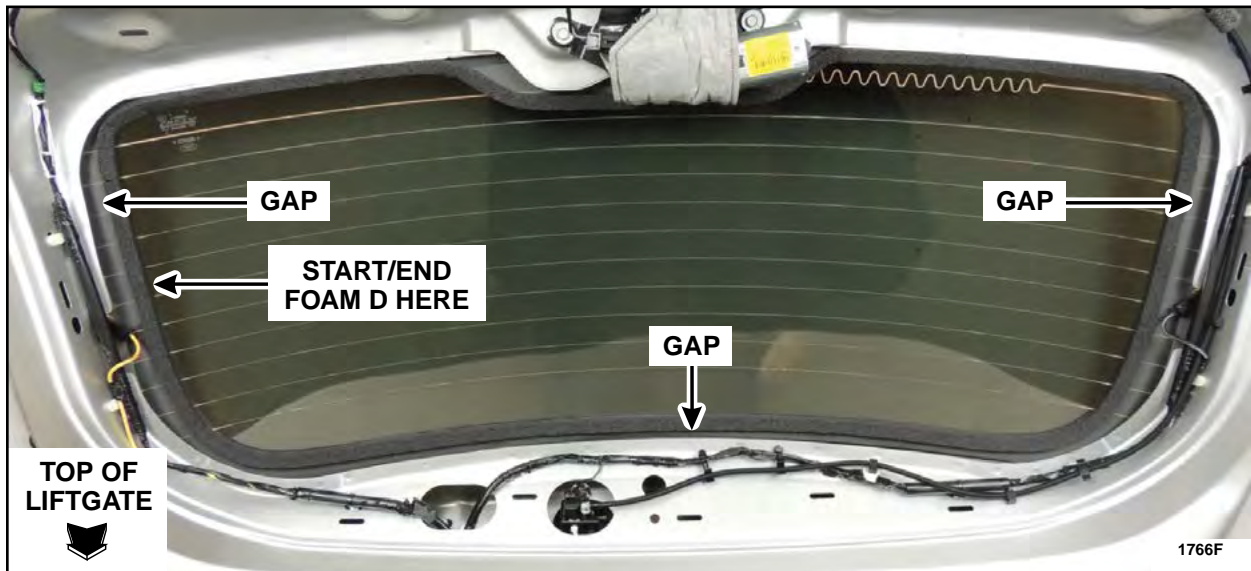

FIGURE 22
10. Install foam piece D. See Figures 22 and 23.
- The top and sides of the foam seal must rest on the black silkscreen portion of the liftgate glass with the black dots still visible. See Figures 22 and 23.
- The bottom of the foam seal should cover up the black silkscreen dots on the liftgate glass. See Figures 22 and 23.